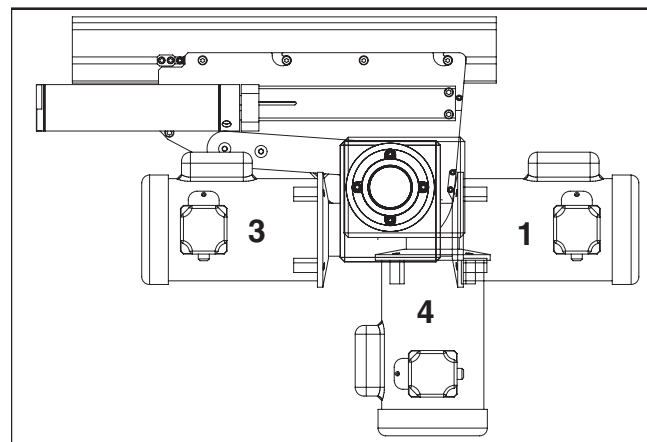

**Figure 16**
1. Locate components in Figure 16.